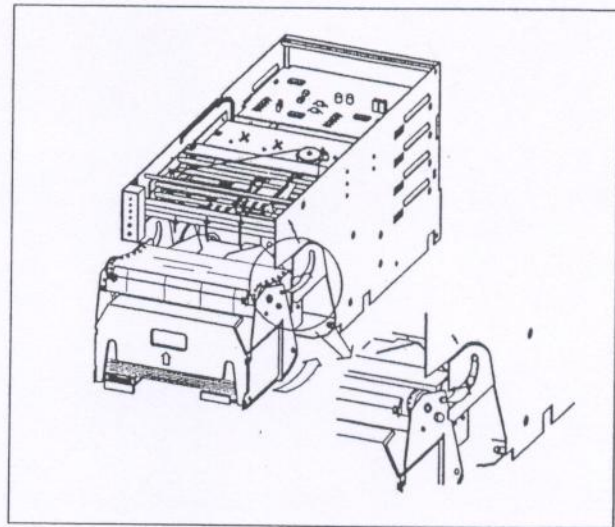

Fig 5.8
4) Put in chart cassette fit for the body groove hole as fig 5.8